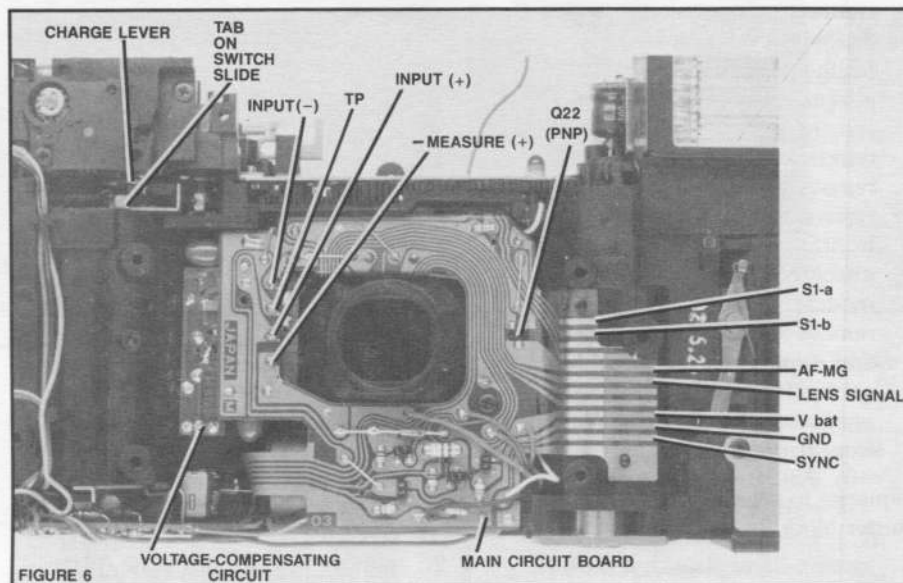
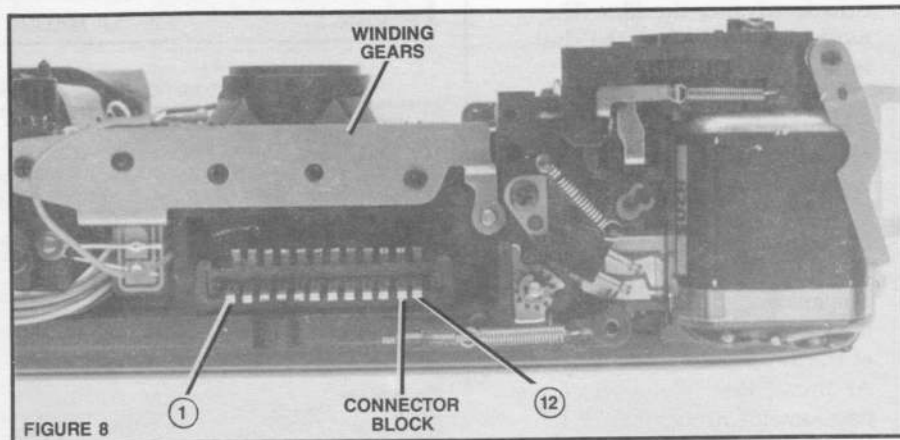

FIGURE 6 VOLTAGE-COMPENSATING CIRCUIT MAIN CIRCUIT BOARD
FIGURE 8
- Fig. 6— front view, shutter block removed
- Fig. 8— top view, shutter block and AF module removed
ed, the \hat{D} C/DC converter (voltage-compensating circuit) steps up the battery voltage to around 3.5V for the AF circuit. You can check the circuit with the shutter block removed, Fig. 6. Apply 1.5V between the input leads marked plus and minus in Fig. 6. Measure the output between the negative input lead and the terminal marked "measure." Short the terminal marked "TP" to the negative input terminal. You should now measure the stepped-up voltage (3.3-4V). If not, replace the com-
5. remove AF module (3 screws and unplug module from connector, Fig. 8)
winder-switch tab (the tab at the bottom of the motor assembly, Fig. 6).
1. If you disassemble the gear train, Fig. 8, note that three gears have punch marks for timing—the charge gear, the metal stop gear, and the sprocket gear. Align the punch mark on top of the metal-gear ridge with the punch mark on the charge gear (the gear with the plastic cam). Align the punch mark on the sprocket gear with the second punch mark on the metal stop gear (the punch mark next to the gear teeth).
push the release slide. As you seat the shutter block, fit the tab on the charge plate, Fig. 4, between the roller on the charge lever and the tab on the switch slide, Fig. 6. First hold aside the charge lever so the roller fits to the outside of the charge-plate tab; then push the switch slide to the right, Fig. 6, until its tab fits to the inside of the charge-plate tab. The shutter block should then seat properly.
Check the voltage between pin 11 of the connector block, Fig. 8, and ground (pin 6 of the connector block or the shutter-base plate). When you push the release part way, you should measure the supply voltage. If not, clean the main-switch contacts and the flex connectors on the main circuit board and shutter block, Fig. 6 and 7.
Check the voltage at pin 5 of the connector block, Fig. 8 and Fig. 13, with the release partially depressed. You should measure over 3V (output of DC/DC converter). If not, check the red-wire solder connections, Fig. 14, and the voltage-compensating circuit (see "Additional Test Procedures," #4).
Check for poor contact between the AF module and pin 10 of the connector block, Fig. 8 (if the lens always stops at the first position).
Check for poor contact between pin 10 of the connector block, Fig. 8, and the AF module. If
Check the contact between pin 5 of the connector block and the AF module. With poor contact at pin 5, Fig. 8, the AF LED won't turn on in the finder and the lens always moves to position 7.
Check the voltage at pin 10, Fig. 8, of the connector block (AF module installed).